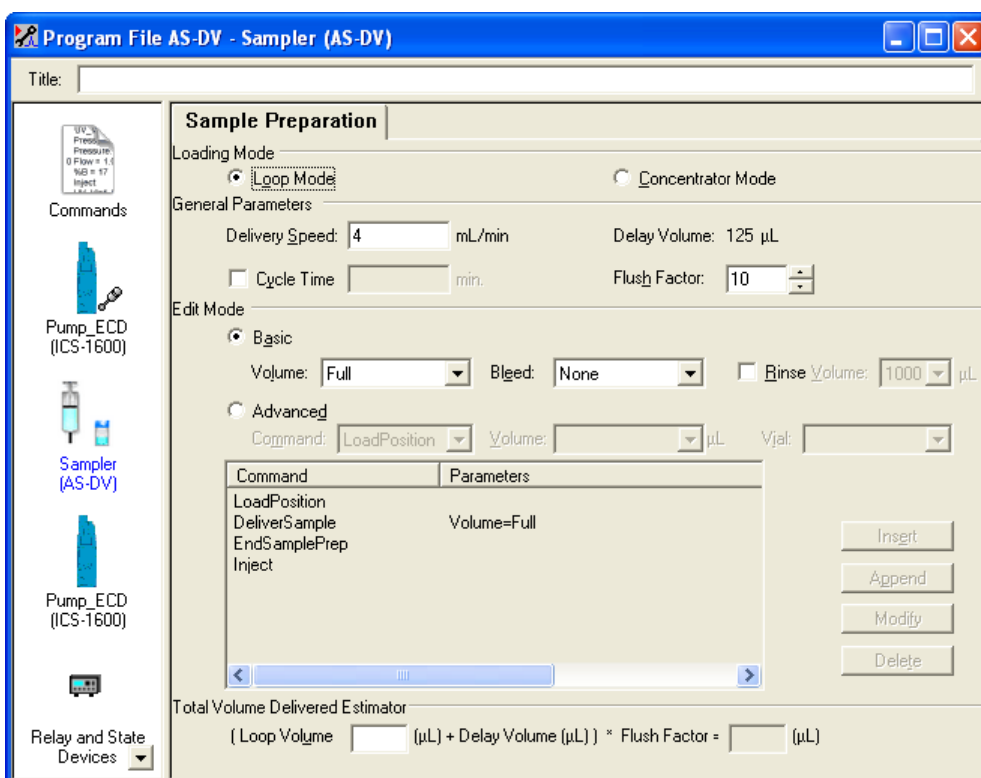

Figure 3-15. Sample Preparation Options: (Chromeleon 6.8 Version Shown)
1. On the Sample Preparation page of the Instrument Method Wizard/Editor or Program Wizard/Editor, select **Basic Edit Mode** (see Figure 3-15).